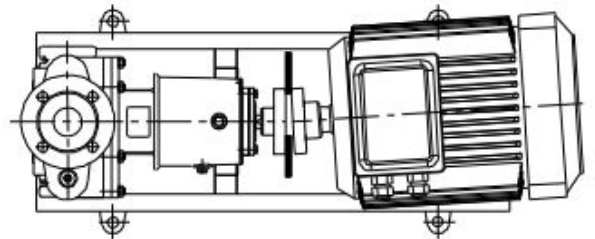

Fig. 4a. Angle error in horizontal plane and to settle
- Alignment errors can be either on vertical plane or horizontal plane. On vertical plane alignment is corrected by inserting shims under the pump or motor foot, and on horizontal plane alignment is corrected by sliding the pump and/or motor horizontally sideways by using the gaps at mounting holes. **Fig. 4a, 4b, 4c, 4d** show alignment of coupling step by step.